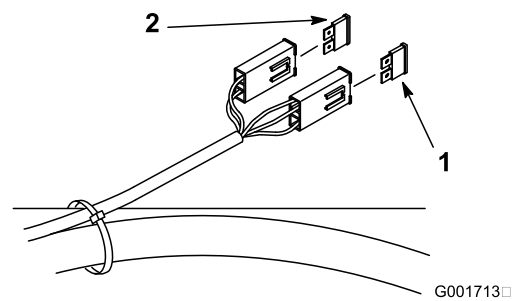

Figure 46
- Unlatch the seat and raise the seat to gain access to fuse holder (Figure 46).
- Install a new fuse (Figure 46).